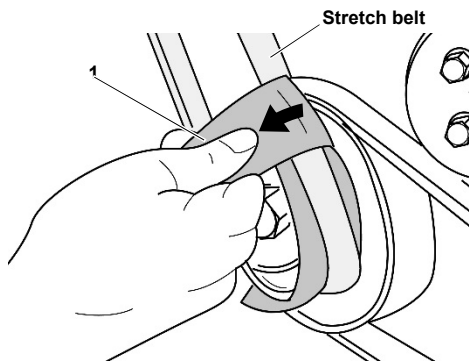

Fig. 4: **Pulling off the stretch belt.**
4. By pulling the end of webbing '1' to the left (viewed from the front), remove stretch belt from pulley as shown in **Fig. 4**.